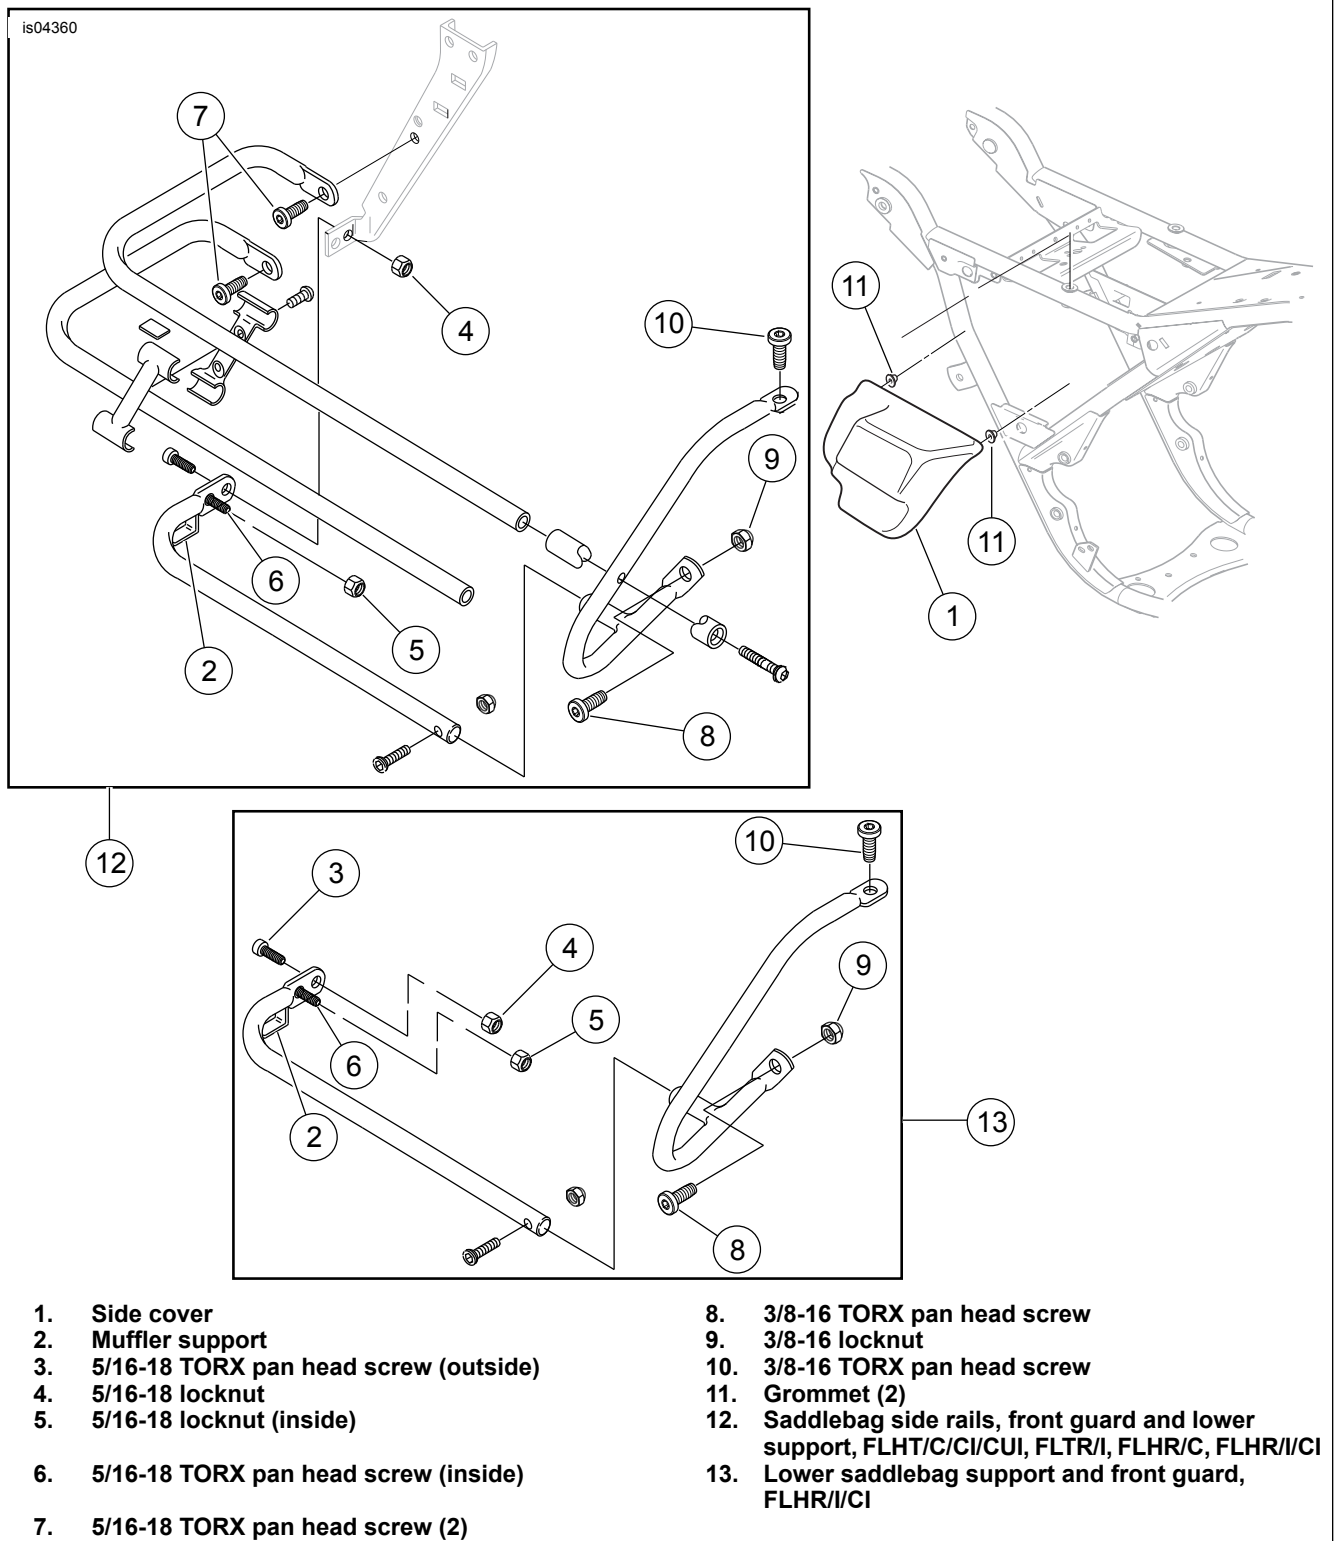
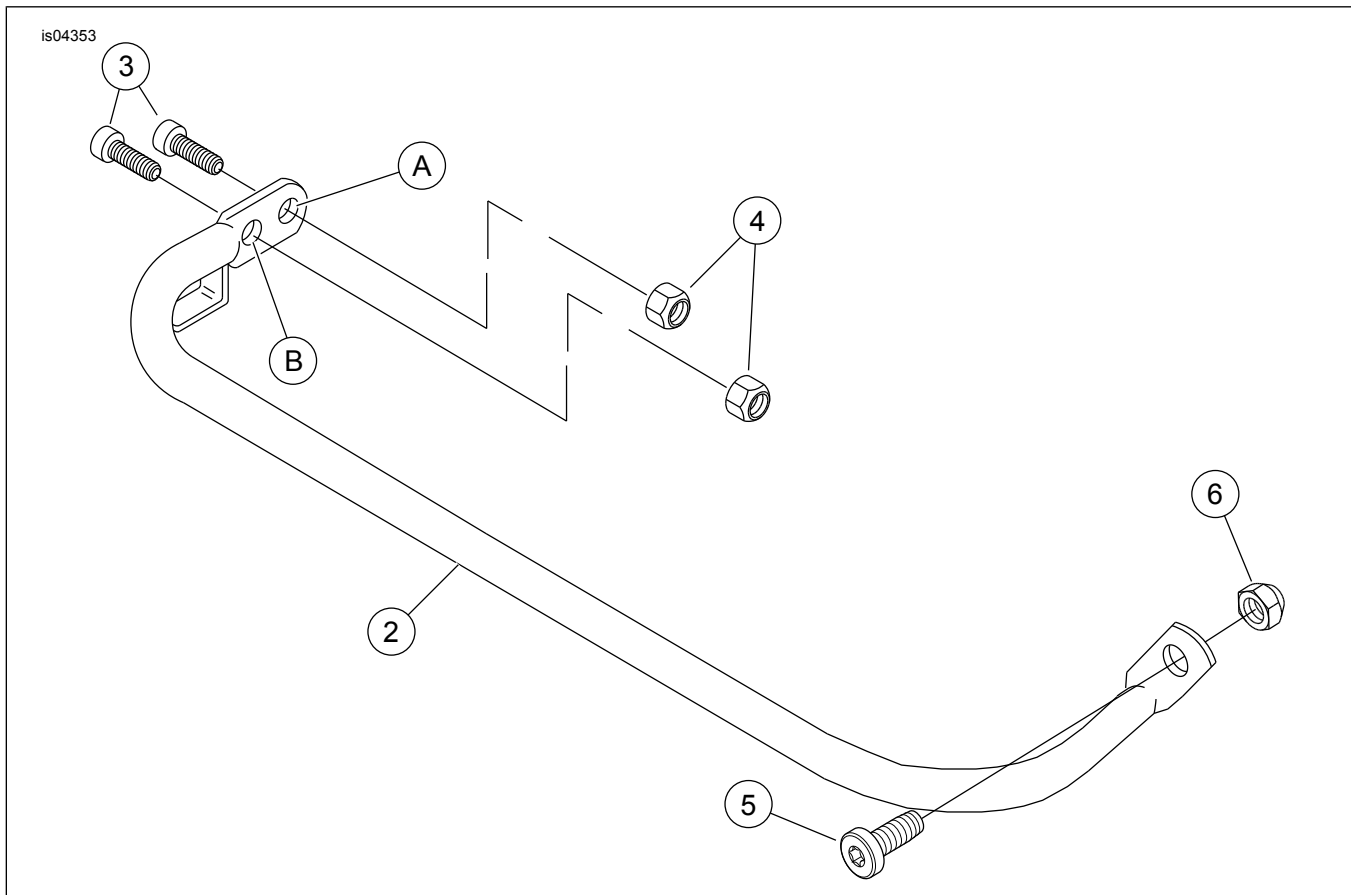

Figure 1. Saddlebag Support Removal Procedure
Figure 2. Service Parts: Saddlebag Support (Dresser Bar) Kit, Chrome
See Figure 1 and Table 1.
See Figure 1. Item 12 covers saddlebag side rails, front guard and lower support removal for FLHT/C/CI/CUI, FLTR/I, FLHR/C and FLHR/II/CI models and item 13 cover removal for lower saddlebag support and front guard for FLHR/II/CI models.
3. See Figure 1. Gently pull one side cover (1) from the frame downtubes (no tools are required).
4. Remove the 5/16-18 hex head screws (not shown) and lockwashers (not shown) that secure the muffler to the muffler support (2). Save the muffler mount bracket, rubber mount from the old saddlebag lower support, 5/16-18 hex head screws and lockwashers.
5. With a T-40 TORX[®] driver, remove and discard the outside 5/16-18 TORX pan head screw (3) and 5/16-18 locknut (4) that secure the lower saddlebag support to the rear bumper and fender support.
6. Remove and discard the inside 5/16-18 locknut (5). Leave in, the inside 5/16-18 TORX pan head screw (6), to keep alignment of the rear bumper rail to the rear bumper and fender support.
7. With a T-40 TORX driver, remove and discard 5/16-18 TORX pan head screws (7) that secure the horizontal side rail saddlebag guards to the fender mounting support.
8. With a T-40 TORX driver, remove and discard the 3/8-16 TORX pan head screw (8) and 3/8-16 locknut (9) that fastens the lower flange of the front saddlebag guard to the motorcycle frame.
9. With a T-40 TORX driver, remove and discard the 3/8-16 TORX pan head screw (10) that fastens the upper flange of the front saddlebag guard to the frame. Remove the saddlebag guard with the rails and discard.
11. See Figure 2. The new chrome saddlebag supports are side-specific. Take the chrome left (1) (not shown) or right (2) side support from the kit and place it in position on the vehicle frame. Insert a 3/8-16 x 7/8 in long TORX pan head screw (5) and 3/8-16 locknut (6) from the kit through the front flange of the new support and into the vertical frame tube. Do not tighten the screw at this time.
12. Obtain the 5/16-18 x 1 in long TORX hex socket screw (3) and 5/16-18 locknut (4) from the kit. Insert screw through the outside hole (A) mounting tab on bumper and fender bracket and also through rear flange in new support and thread locknut onto screw and finger tighten.
13. See Figure 1. Remove old screw (6) from the inside hole of bracket. See Figure 2. From the kit, insert new 5/16-18 screw (4) into the inside hole (B) of bracket and thread locknut (5) on screw.
15. Install the muffler mount bracket and rubber mount saved from Step 4, into the new lower chrome support bracket (8).
16. Secure the muffler to the new chrome support bracket (8) with 5/16-18 hex head screws and 5/16 lockwashers (not shown) saved from Step 4.
19. Figure 1. Align the barbed studs in the side covers (1) with the grommets (11) in the frame downtubes and push firmly into place (no tools are required).